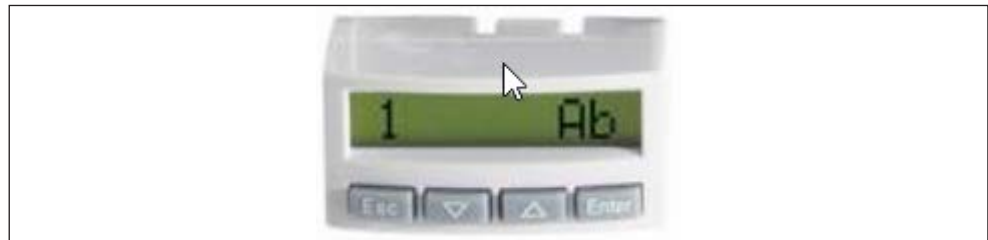

Fig. 1: Operating unit with 8-digit display (standard display)
The system conditions are indicated by means of the integrated LED status display, see Fig. 5, pos. 3 on page 48 and on the display of the drive controller, see Fig. 1 on page 24 and Fig. 7, pos. 16 on page 50.